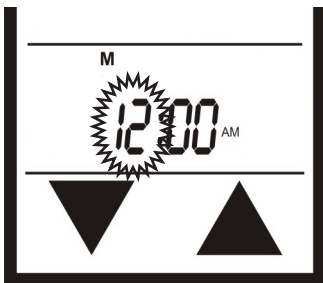

Fig. 5 Hours.
- Press and hold the **SET** button, or touch the SET (middle) section on the touch screen, for 5 seconds. The hour section should begin to flash. (Fig. 5)